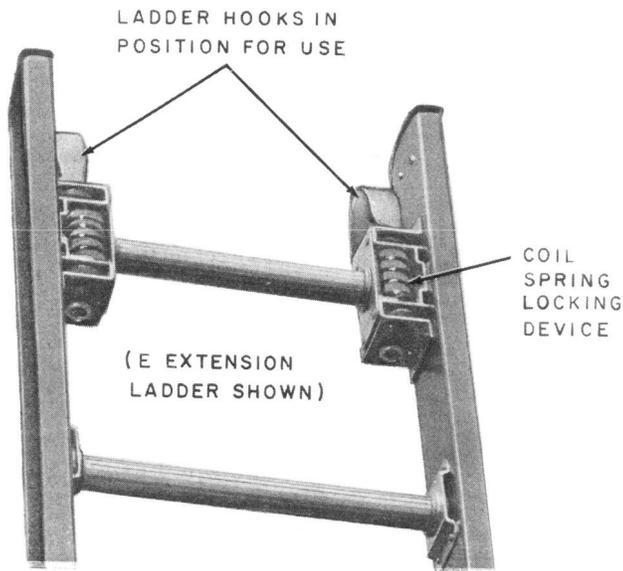

Fig. 4—Ladder Hooks
3.01 The options and accessories available for use with extension ladders are listed in Table B and are shown in Fig. 4 through 22.